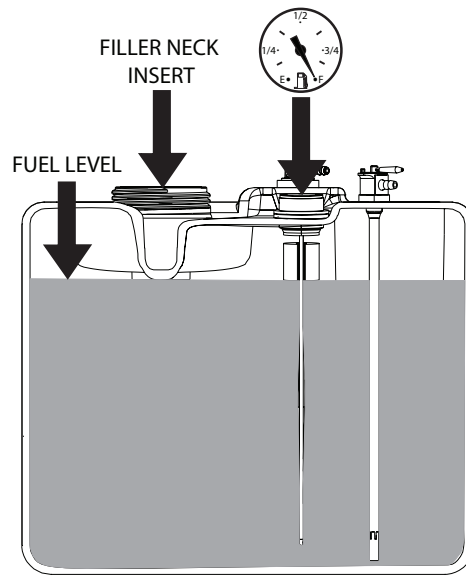

Figure 7-3. C.A.R.B. / EPA Phase 3 Fuel Level
Fill to the bottom of the filler neck insert (approximately 5-1/2 gallons indicating Full (F) on the fuel gauge) at the beginning of each operating day. See Figure 7-3. Do not overfill. Use clean, fresh unleaded gasoline with a minimum octane rating of 87 and a maximum of 10% Ethanol.
1. Sharpen the cutting edge at the same bevel as the original. See Figure 7-3. Sharpen only the top of the cutting edge to maintain sharpness.